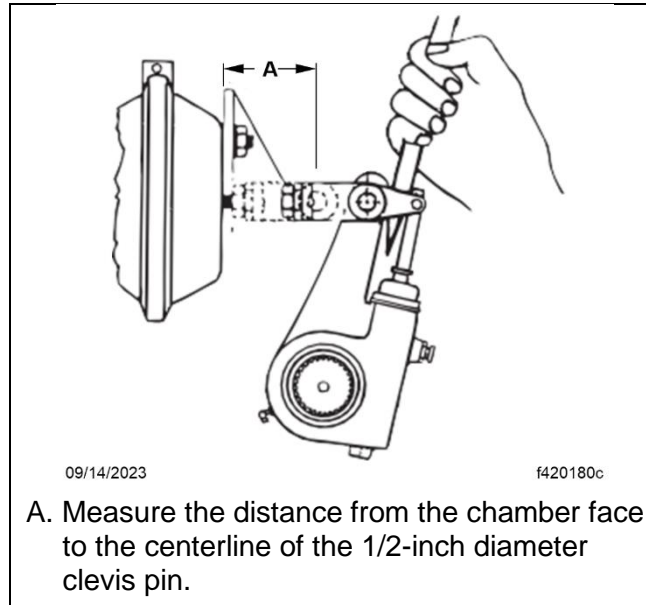

Fig. 3, Measuring the Stroke
- Measure the distance from the chamber face to the centerline of the 1/2-inch diameter clevis pin, as shown in Fig. 3. This distance should be $2\text{-}1/4 \pm 1/8$ inch for long stroke air chambers and $2\text{-}3/4 \pm 1/8$ inch for standard stroke air chambers. See Table 1.